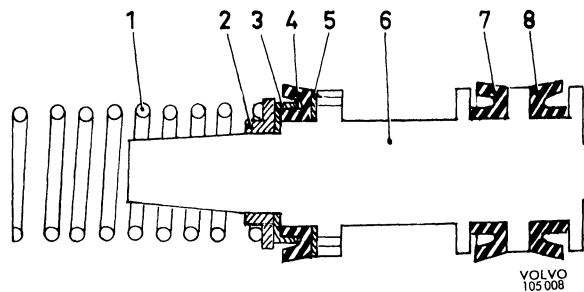

Fig. 5-49. Secondary piston
1. Fit the thin washer (2, Fig. 5-49), the seal (4) and the back-up ring (3) on the secondary piston. Fig. 5-49 shows how the parts are located.